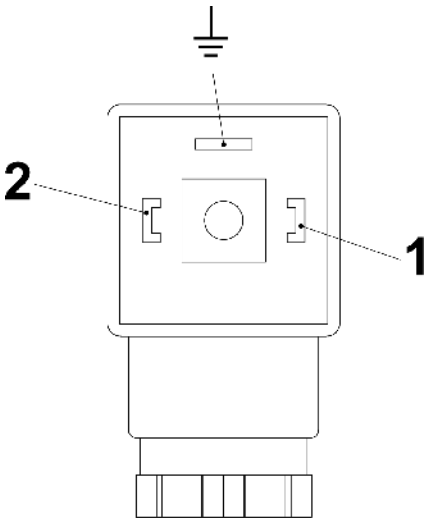
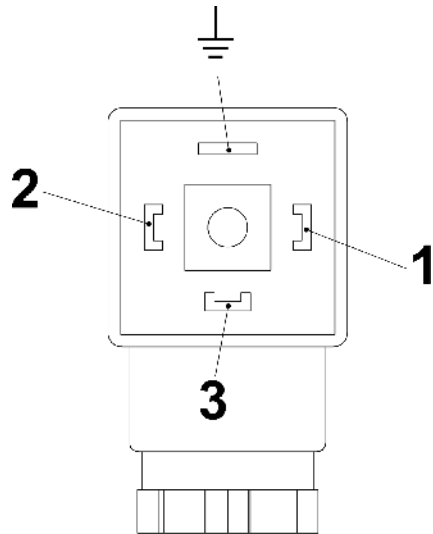

Fig. 24: Pin assignment, plug socket, normally-open contact (Form 30x70)
Fig. 25: Pin assignment, plug socket, change-over contact (Form 30x70)
6. ➤ Make the connections as shown in the connection diagrams (Fig. 24 and Fig. 25).